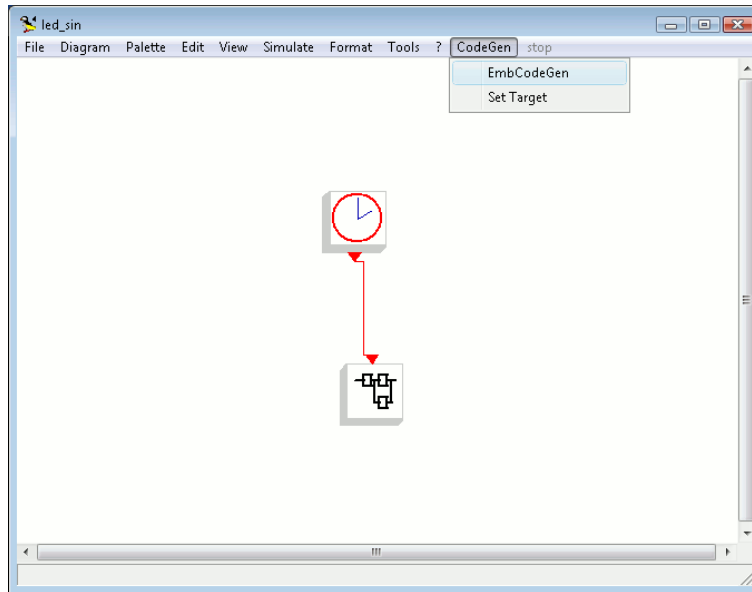

Figure 5.17: The CodeGen menu.
1. Select `EmbCodeGen` from the `CodeGen` menu (see Figure 5.17).